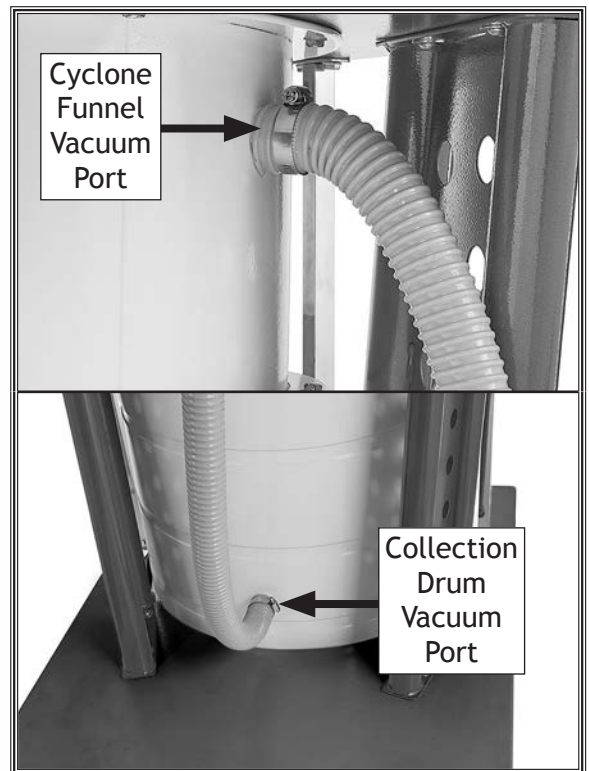

Figure 23. Vacuum hose connections.
24. Place 1 3/4" hose clamps on each end of 1 1/2" x 60" vacuum hose, then connect hose to ports on cyclone funnel and collection drum (see Figure 23).